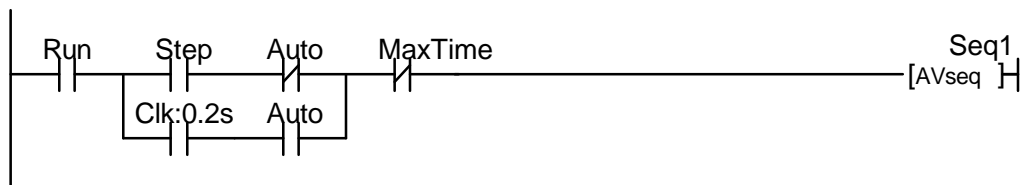

Figure 3.5 - Complete Circuit #2
20. You should have no difficulty creating the four series-connected elements : "Run", "Step", "Auto" and "MaxTime" of Circuit #2 as shown in Figure 3.5 using what you have already learnt so far.